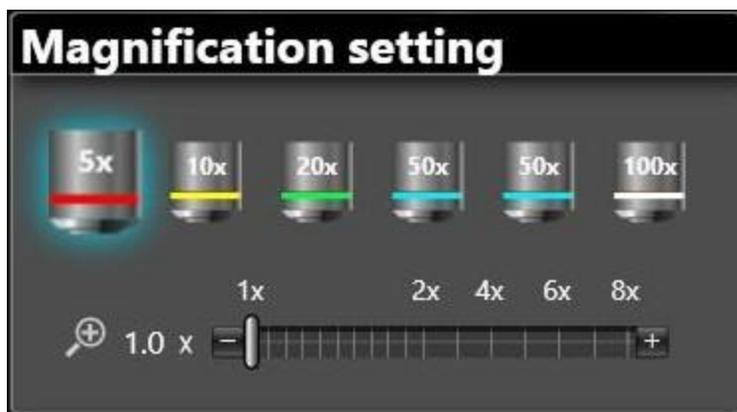

Figure 6. Magnification Setting
5. Before loading the sample, ensure the microscope is set to the lowest magnification. If it is not, change the magnification to 5X by selecting it from the magnification settings, as shown in Figure 6.
21. Reset the magnification to 5X by selecting it from the magnification settings, as described in Step 5 and shown in Figure 6.